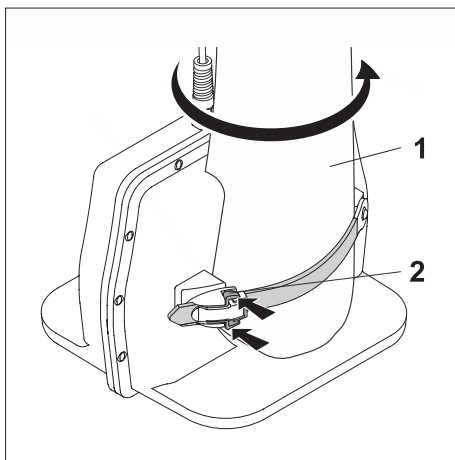

Fig. 38: Marker ball antenna – disconnecting the receiver and antenna
3. Release the ratchet strap (fig. 38).